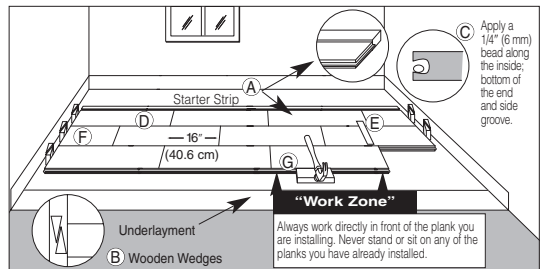

Figure 15
Do not apply glue to the groove side at this time (Item C, Figure 15). Products with the end tongue on the left should be installed right to left, opposite tongues should be left to right. (Item D, Figure 15). If a sacrificial board was used DO NOT glue the first row to it.
- Complete the first row. Cut the last board allowing for 1/2" (13 mm) clearance between the wall and the floor. (Use the remaining end of the cut board as a starter board for any row following row three). Install a wedge on the end of the board between the hardwood flooring and the wall, allowing 1/2" (13 mm) expansion space. Avoid installation of any boards shorter than 16" (40.6 cm) in the first four rows. (Item F, Figure 15).
- Use a pull bar to pull the last board into place from the opposite end. Install wedges into the gap and tighten (Item B, Figure 15).
- Cut or use a shorter board for the first board of the second row. Start the second row by applying a 1/4" (6 mm) bead along the inside bottom of the end and side groove of the new board. Install the first board of row two. Apply a bead of glue to the inside bottom of the end and side groove of the next board and install. When installing boards together, use a tapping block against the tongue, not the groove (Item G, Figure 15). Tap the boards into place by tapping with a hammer on the tapping block. DO NOT tap on the edge directly with the hammer. Complete the second through fourth rows using this technique. Insert wedges on the ends as necessary, to restrain the movement of the floor.